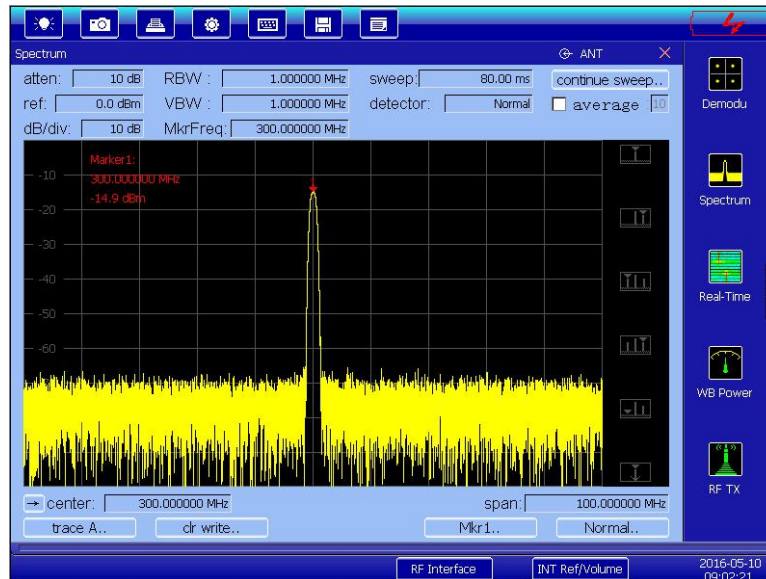

Fig. 4-10 Spectrum measuring interface
- 5) Click **[[center]]** and **[[sweep]]** for relevant setting on the lower part of the screen as per the input signal. After that, the spectrum of the signal under test can be seen, as shown in Fig. 4-10.
In the Spectrum mode, the power of specific frequency point can be measured easily via the marker. S5104 series provides a shortcut option to use the marker for measurement, as shown in Fig. 4-11, through which such values as the peak, secondary peak, left peak and right peak can be measured easily. Meanwhile, the instrument can support multiple-marker measurement, and Markers 1-4 can be selected from the function menu in the left of the interface. The measuring case shown in Fig. 4-10 selects Marker 1 for peak measurement.